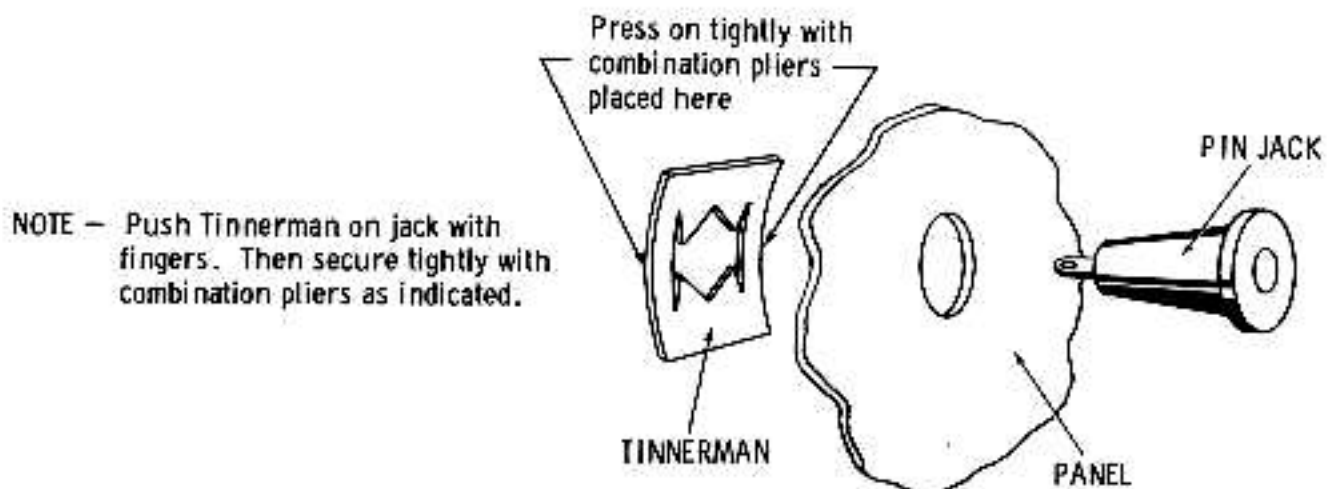

FIGURE 2
- ( ) 1. Insert a red Bakelite pin jack in hole at front panel location A. Position so that flat side of solder lug is horizontal, and secure the jack with Tinnerman fastener, as shown in Figure 2. After jack has been installed, bend the solder lug up toward top of panel.